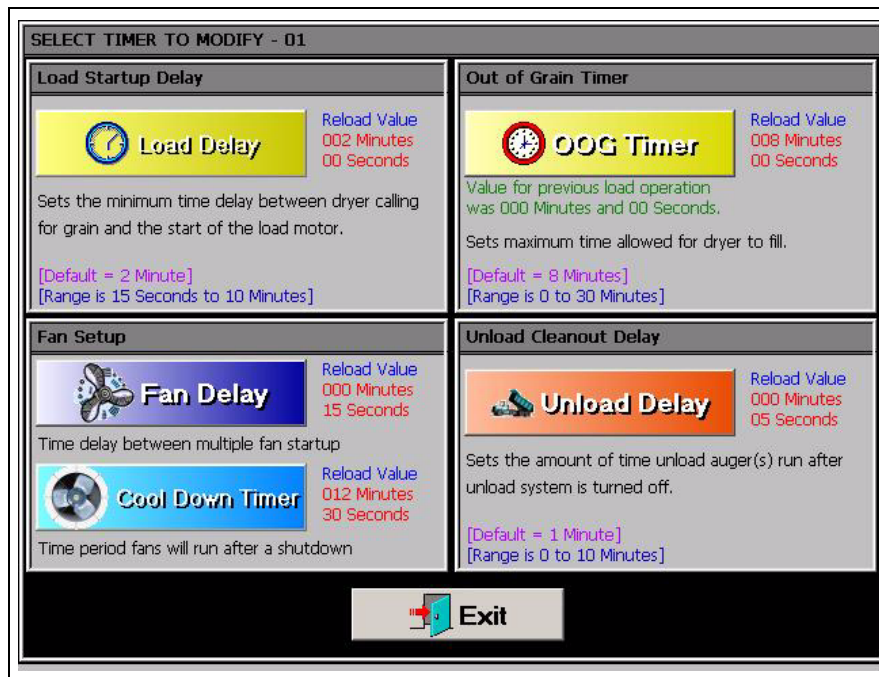

Figure 5B
Select the  **Timers** button. A new screen will appear called the “Select Timer to Modify” screen. (See Figure 5B.) There are five (5) timers that can be modified.